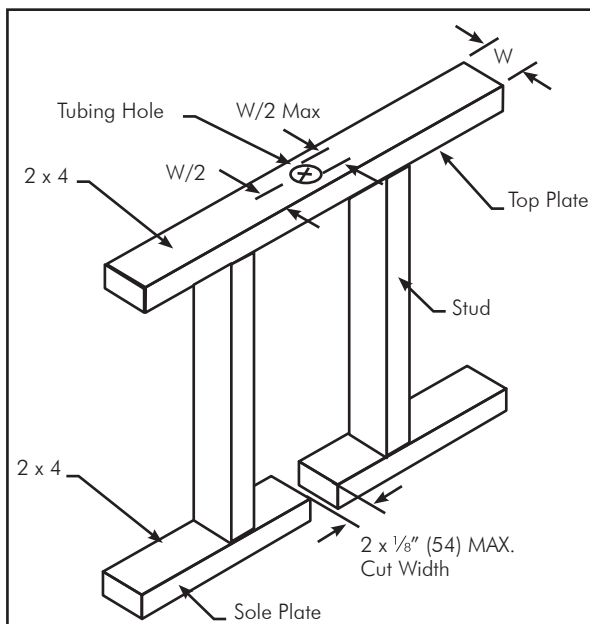

FIG. 4-6 Holes and Cuts in Top and Sole Plates
- In locations where DIAMONDBACK™ is installed through bored holes in joists, rafters, or wood members, holes shall be bored so that the edge of the hole is not less than 2" (51) from the nearest edge of the wood member. Where the distance cannot be maintained at any point, the tubing shall be protected by a DIAMONDBACK™ striker plate of the appropriate length and width installed in accordance with the striker plate instructions in this manual. The diameter of the bored holes shall be a minimum of 1/2" (13) larger than the outside diameter of the tubing jacket unless the hole size is in conflict with local building codes which shall prevail.
- The size of the hole drilled through **top plates, top frame members, and sole plates**, to allow the vertical passage of the tubing, shall not exceed 1/2 of the width of the member. The hole should be bored through the center of the member (See **FIG. 4-6 below**).
- Where sole plates are cut for tubing, the width of the cut shall be 1/2" (13) larger than the outside diameter of the tubing jacket but not greater than 2 1/8" (54), and the tubing must be protected with a DIAMONDBACK™ striker plate of the appropriate length and width installed in accordance with this manual (See **FIG. 4-6**).